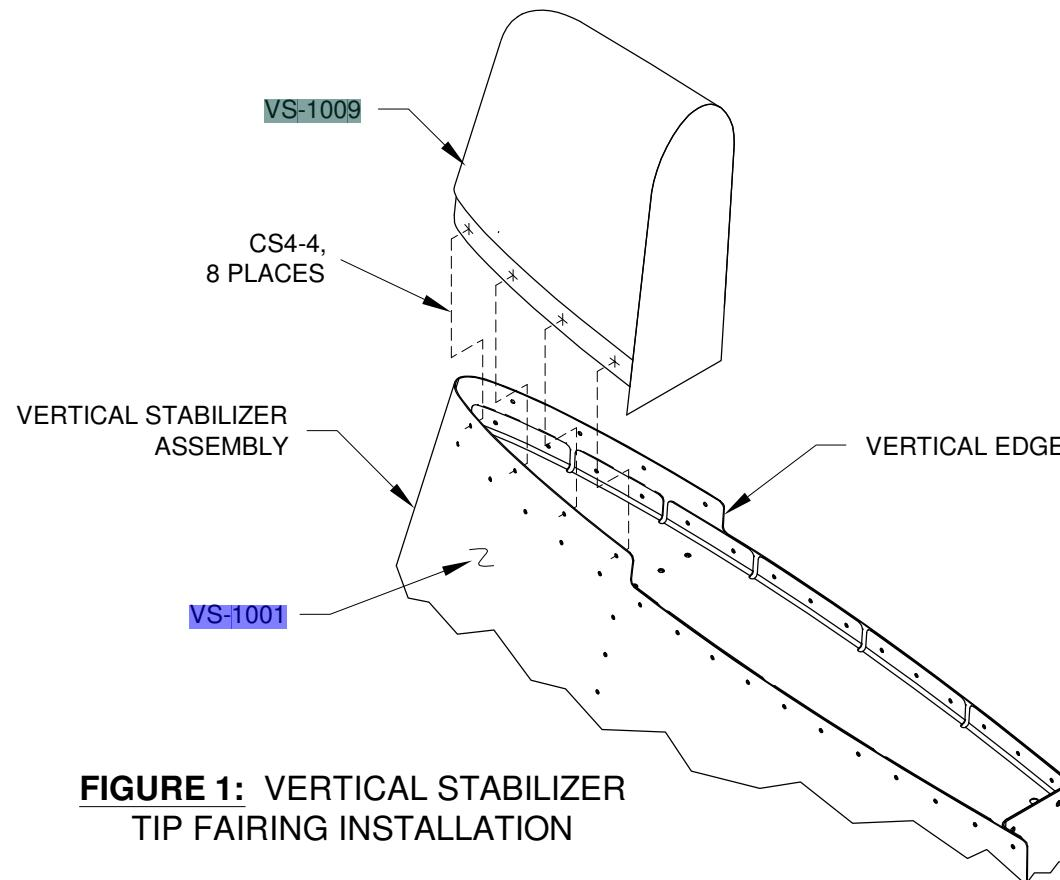

FIGURE 1: VERTICAL STABILIZER TIP FAIRING INSTALLATION
Step 5: Cleco and rivet the **VS-1009** Vertical Stabilizer Tip Fairing onto the vertical stabilizer assembly per the callouts in Figure 1.